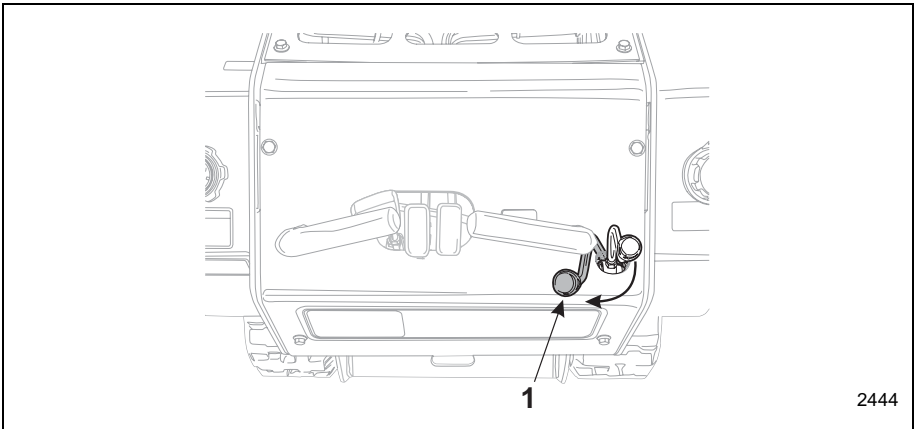

Figure 3-22 Trencher Chain Control Lever in Backwards Position
- If you want to reverse the operation of the trencher, move the auxiliary control lever (Item 1, Figure 3-22) to the left into the REVERSE position. The control lever will not remain in the REVERSE position if you release it and will return to the NEUTRAL position stopping the trencher chain.